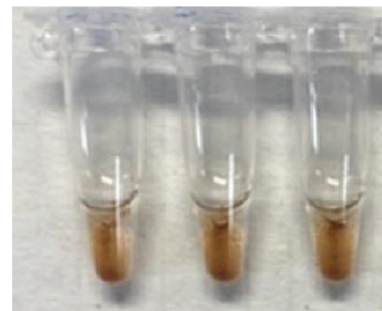

Figure 3. ConA beads settle to bottom of tubes after overnight incubation at 4°C.
27. Retrieve 8-strip tubes from 4°C incubation on the nutator. You may see some bead settling in the bottom of the tubes, which is normal (**Figure 3**). Quick spin to collect liquid. Place tubes on magnet, allow slurry to clear, and pipette to remove supernatant.